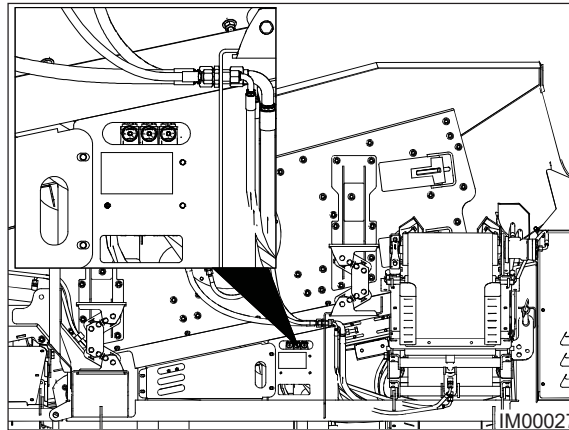

Fig: 10.9 - Control Levers
3. Proceed to the control levers located on the left-hand side of the machine (Fig: 10.9).